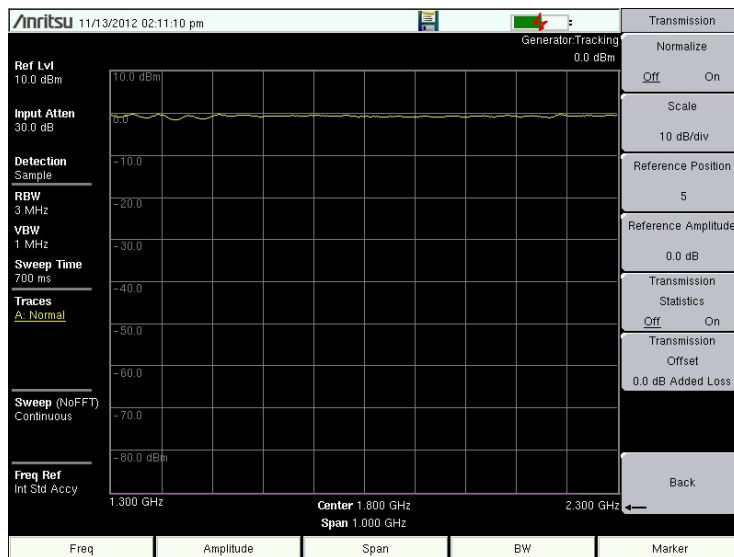

Figure 3-3. Normalize Off (Trace at ~0 dBm)
2. Press the **Shift** key, then the **Measure (4)** key. Press the Generator key. Set the Generator Mode to Tracking and turn Generator Output On.
3. Connect a through cable between the RF OUT and RF In connectors. From the Generator submenu, press the Transmission Measurement submenu key (Figure 3-3).